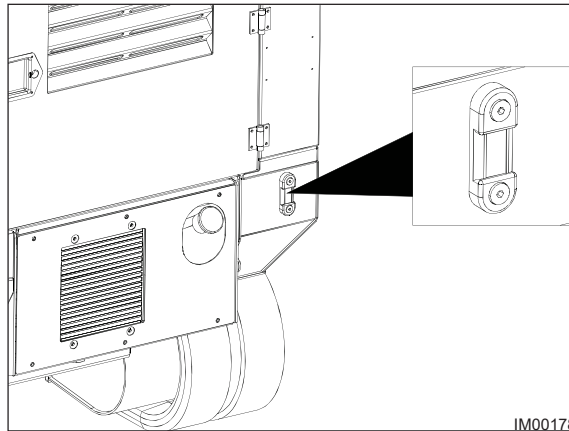

Fig: 11.38 - Hydraulic Oil Tank
4. View the Oil Level Gauge (Item 1, Fig: 11.38). The oil level shall be between the red and black markers on the sight glass.